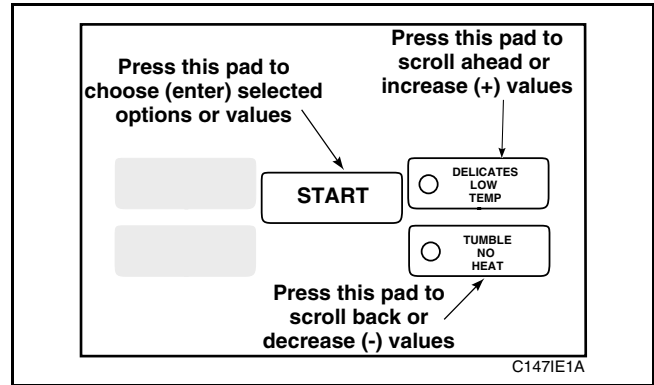

Figure 90
5. Press the LOW TEMP (+) pad or the NO HEAT (-) pad to increase or decrease the day of the month until correct, *Figure 90*.